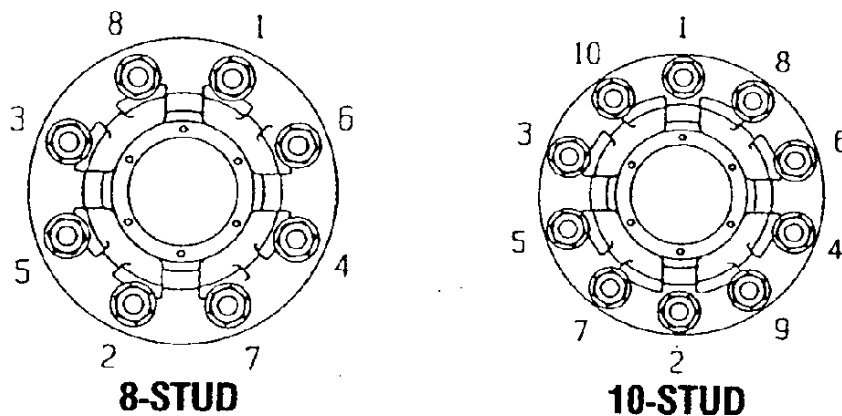

Figure 6 - Proper tightening and torque sequence.
When installing drive hubs, position a new gasket over the drive studs and install the axle through the hub. Use drive cones as recommended by the axle manufacturer. Torque the nuts to the manufacturer's specifications using a sequence similar to that shown on Figure 6.
3. Screw in the nuts alternately in the sequence shown in Figure 6. **DO NOT** tighten them fully at this time. Stud and cap nut threads should be clean and dry; no oil should be used beyond the first three threads.
5. Tighten and torque the nuts fully, using the same alternating sequence as shown in Figure 6. Tighten them only to the recommended torque level as shown in the chart in Table 2. Use a torque wrench to verify the proper torque, especially if an air wrench or bar wrench has been used to tighten the nuts.